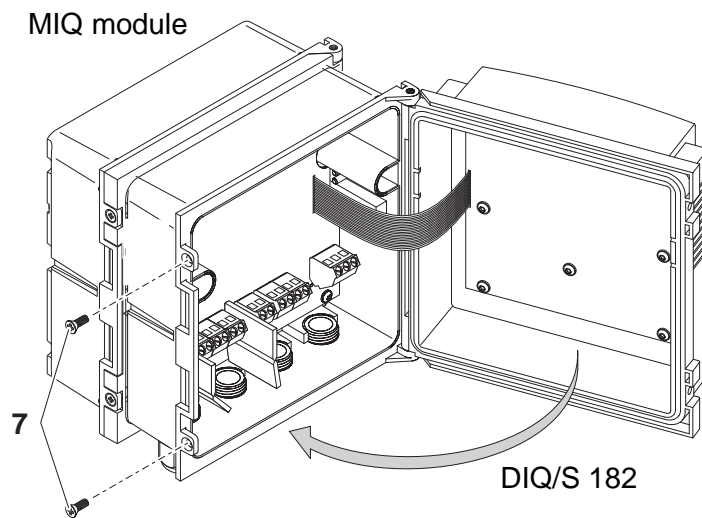

Fig. 3-5 Closing the enclosure (variant 1)
| 8 | Close the lid of the Universal Transmitter and fix it with the two countersunk screws (pos. 7 in Fig. 3-5).  |